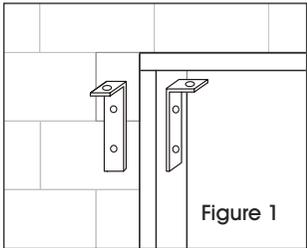

Figure 1
1. Before installing, decide on gate placement. "L" bracket that forms top hinge allows gate placement in the recess of door frame. Installation can also be made outside or inside of wall next to door or opening frame. (See Figure 1)